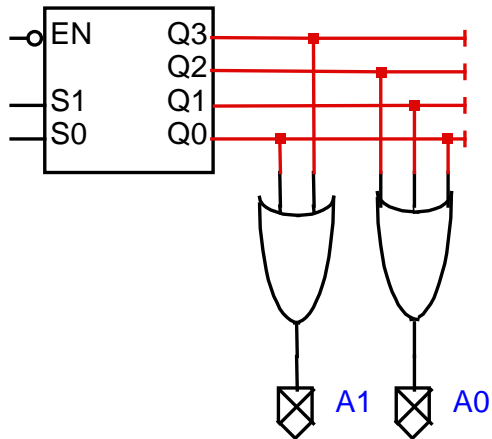

Figure 3: ROM example
For this example, our ROM lookup table has four entries. Each row in Table 1 is one entry. The goal is to output (A1, A0) when the corresponding row is selected by (S1, S0). This can be done with the circuit shown in Figure 3. Since an OR gate only needs one input to be active in order for the output to turn on, the circuit is built by simply connecting a wire corresponding to each 1 in the table. For example, when $S1=1$ and $S0=1$, Q3 becomes active ($Q3=1$) and all other lines are zeros. Thus $A1 = 1$, as desired.
1. Design a decoder-based ROM similar to Fig. 3 for the look-up table below.